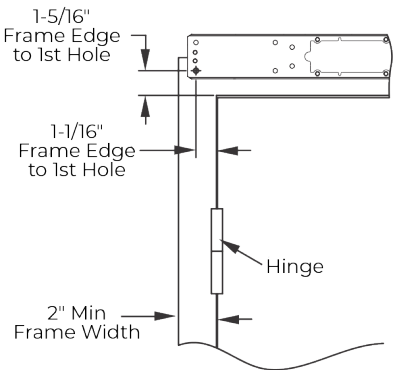

Figure 2
2. Measure, mark, and drill the first mounting hole according to the template (available for download from www.nortonrixson.com). (Figure 2)